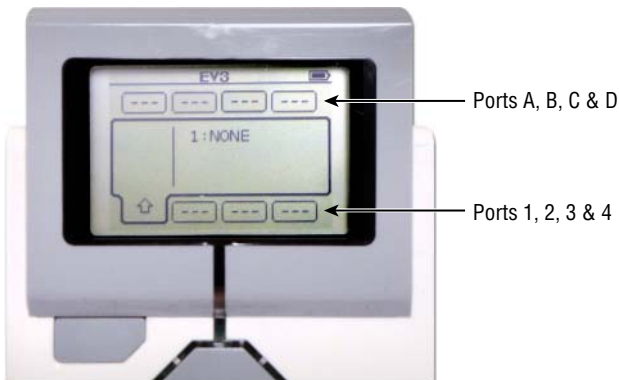

Figure 2-32: The Port View
- Port View:** The Port View tells you which ports are connected to electronic parts such as motors or sensors. The top line of the boxes represents four lettered ports, *A* through *D*, and the bottom line of the boxes has four numbered ports, 1 to 4 (see Figure 2-32).